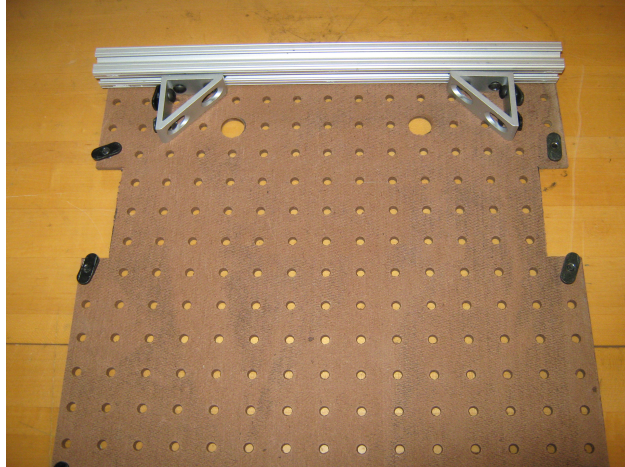

Figure 6: Slide 15" 80/20 and angle brackets onto front sliders. The placement of your sliders on the pegboard may look slightly different from that shown here.
4. Slide the 15" beam of 80/20 onto the two front sliders, as shown in Figure 6. Slide two of the angle brackets onto the 80/20, placed so that their hypotenuses are facing inwards.